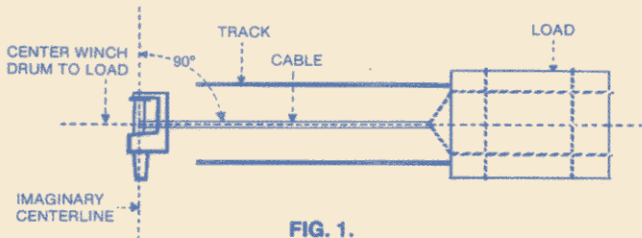

FIG. 1.
Your GOLO Power Winch is very powerful for its size and needs to be properly secured or bolted to a strong support, following these guidelines as illustrated by figures 1, 2 and 3:
1. Center the drum to the load (figure 1) to assure proper drum take-up and to eliminate override.
2. Align the winch so the drum shaft is at a 90° angle to the desired load or track (figure 1).